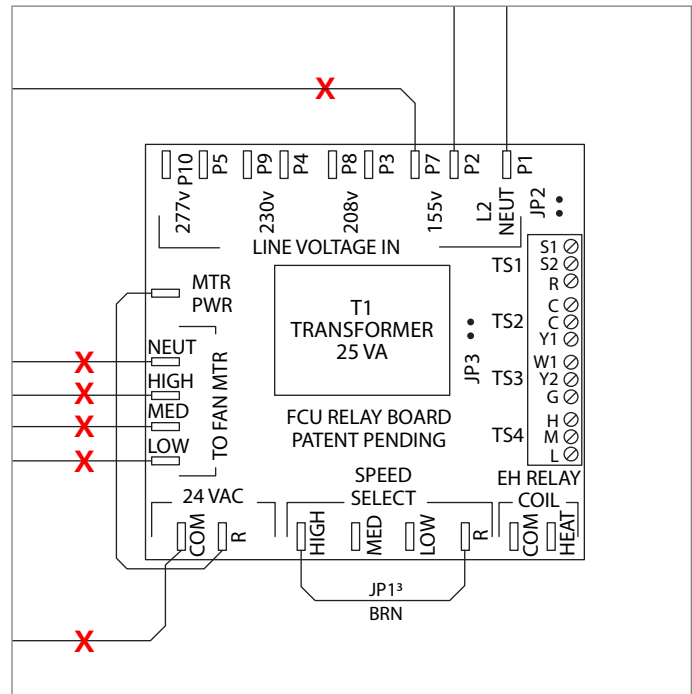

Figure 7 - Removing EC 3 SPD motor wires
- c. EC 3SPD motors. (See Figure 7.)